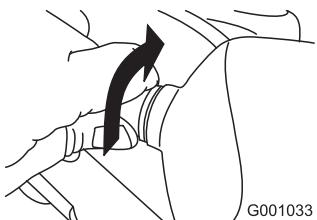

**Figure 51**
1. Remove the wire connector from the back of the headlight (Figure 51).